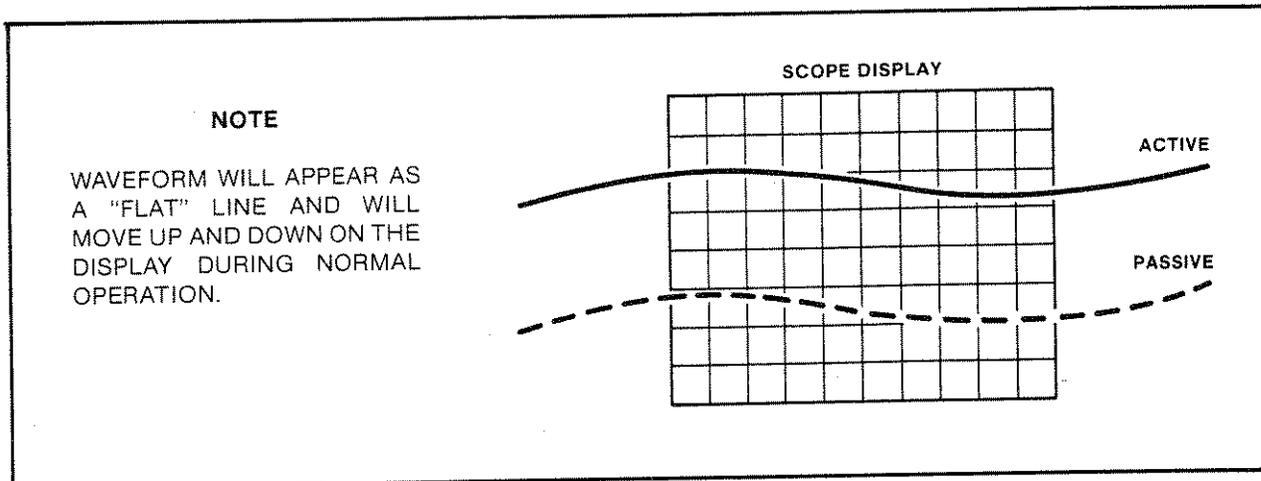

Figure 8-14. Quick Tuning Check Waveform Display
- h. If the sampler, photodiode, and amplifier are working properly, the oscilloscope display will show the trace switch between two distinct levels. See *Figure 8-14* below. With continued observation these levels, which correspond to F1 and F2, will change amplitudes since the tuning is uncontrolled. The difference between the levels varies with time between a maximum difference and a minimum difference.